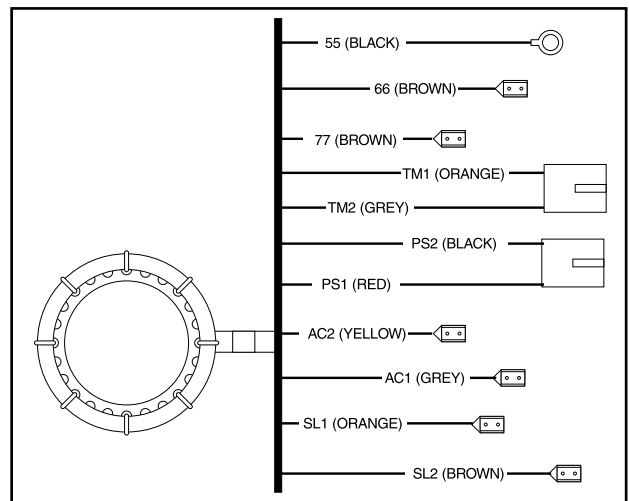

Figure 1. Stator Leads
A. Refer to Figures 1 and 2 on this page and the next. To test the Power Phase windings for an open circuit condition, proceed as follows: